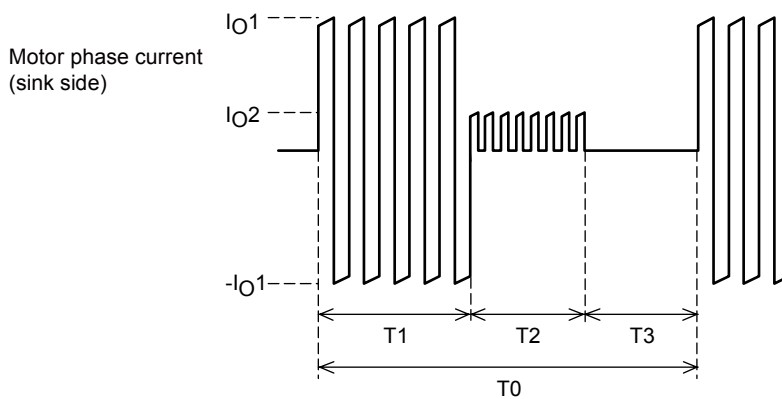
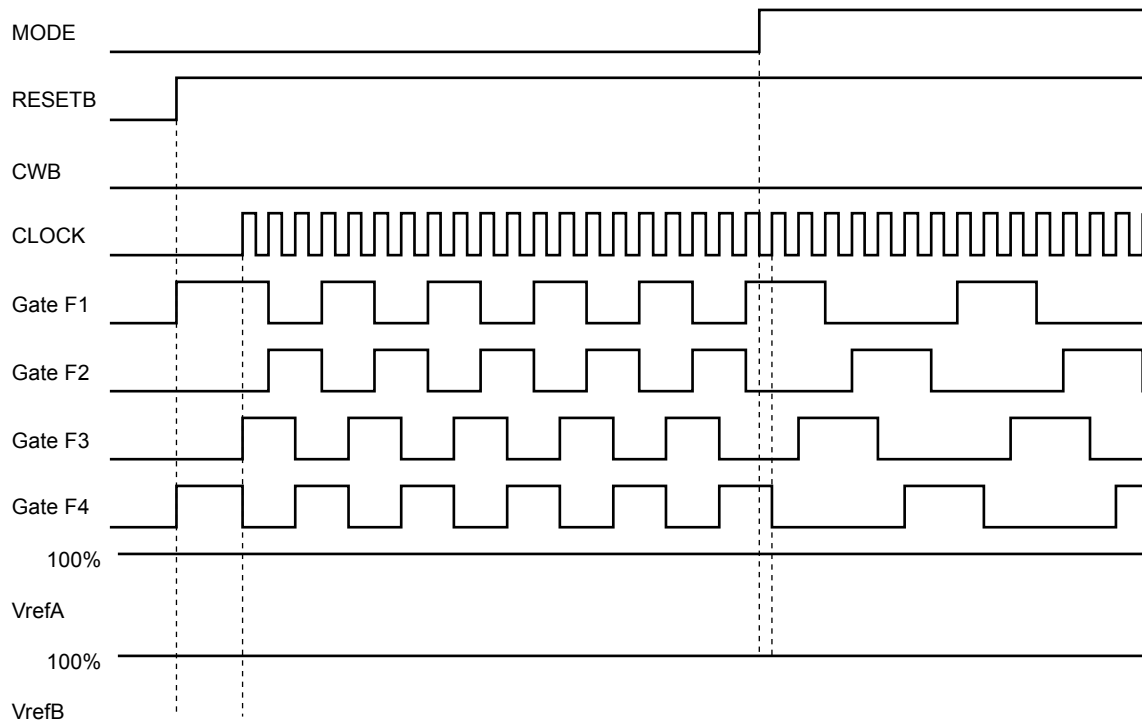
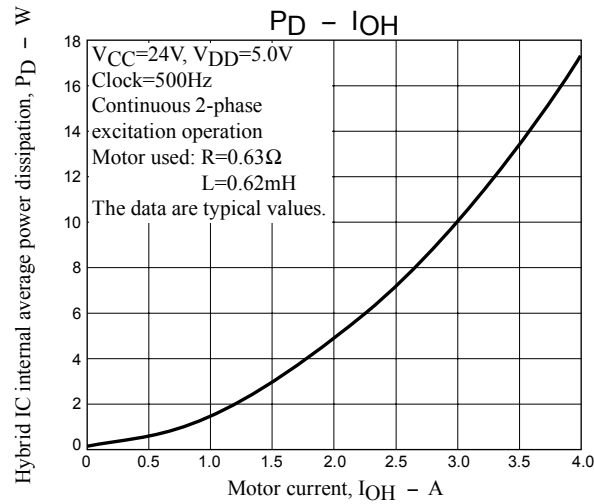

Figure 4 Motor Current Timing
Figure 5 Hybrid IC internal average power dissipation,  $P_D$  - Motor current,  $I_{OH}$
Figure 6 Substrate temperature rise,  $\Delta T_c$  - Hybrid IC internal average power dissipation,  $P_D$
As shown in figure 6, the value of  $\Delta T_c$  increases as the hybrid IC internal average power dissipation PD increases. As shown in figure 5, PD increases with the motor current. Here we describe the actual PD calculation using the example shown in the motor current timing chart in figure 4.
Since there are periods when current flows and periods when the current is off during actual motor operation, PD cannot be determined from the data presented in figure 5. Therefore, we calculate PD assuming that actual motor operation consists of repetitions of the operation shown in figure 4.
Note that figure 4 presents the concepts here, and that the on/off duty of the actual signals will differ.
If the value calculated in formula (I) above is under 1.4W, then from figure 6 we see that operation is allowed up to an ambient temperature  $T_a$  of 60°C.
While the operating range when a heat sink is not used can be determined from formula (I) above, figure 5 is merely a single example of one operating mode for a single motor.
For example, while figure 5 shows a 2-phase excitation motor, if 1-2 phase excitation is used with a 500Hz clock frequency, the drive will be turned off for 25% of the time and the dissipation PD will be reduced to 75% of that in figure 5.